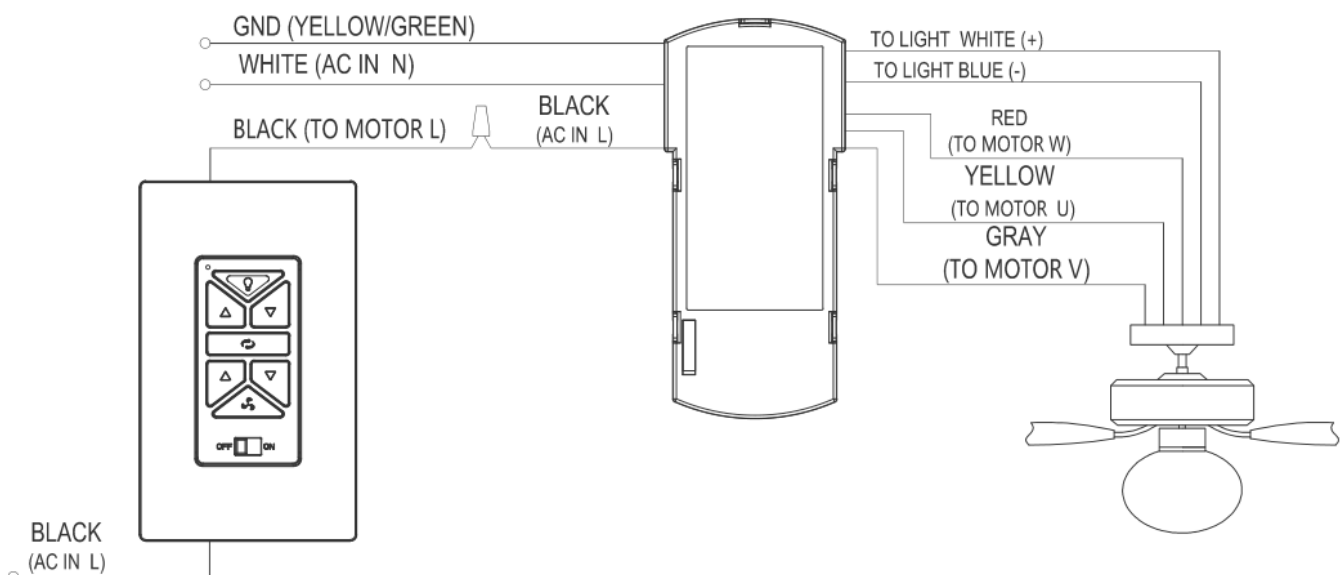

FIG. 1
1. Make wire connections and secure with wire nuts supplied, refer to FIG. 1. Once the connection has been made, the receiver inserts into the drop rod hanging bracket. The canopy comes up to cover the receiver and bracket.